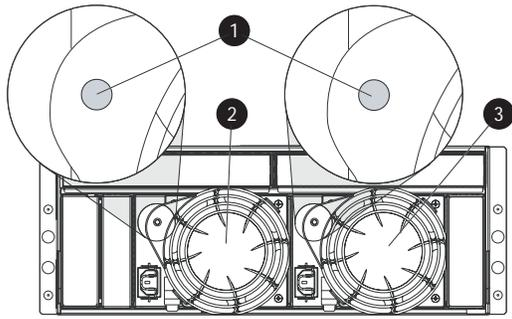

Figure 41 Power supply/blower status indicator
- Check the power supply/blower status indicator. See Figure 41. It should be off.